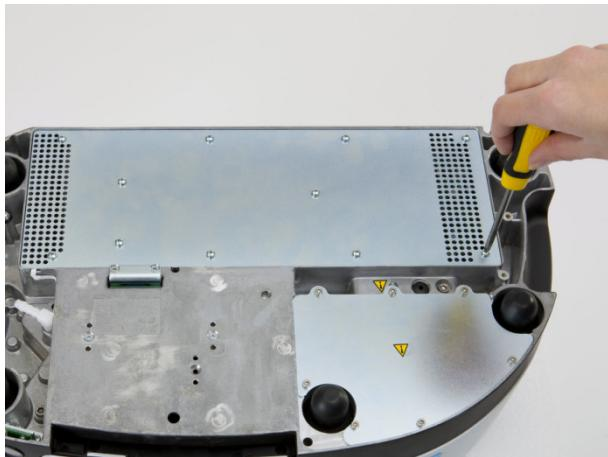

Figure 92 Remove the securing screws
5. Using a Philips-type, PZ No 1 screwdriver, undo the screws securing the main board compartment cover to the instrument and remove the cover (Figure 92).